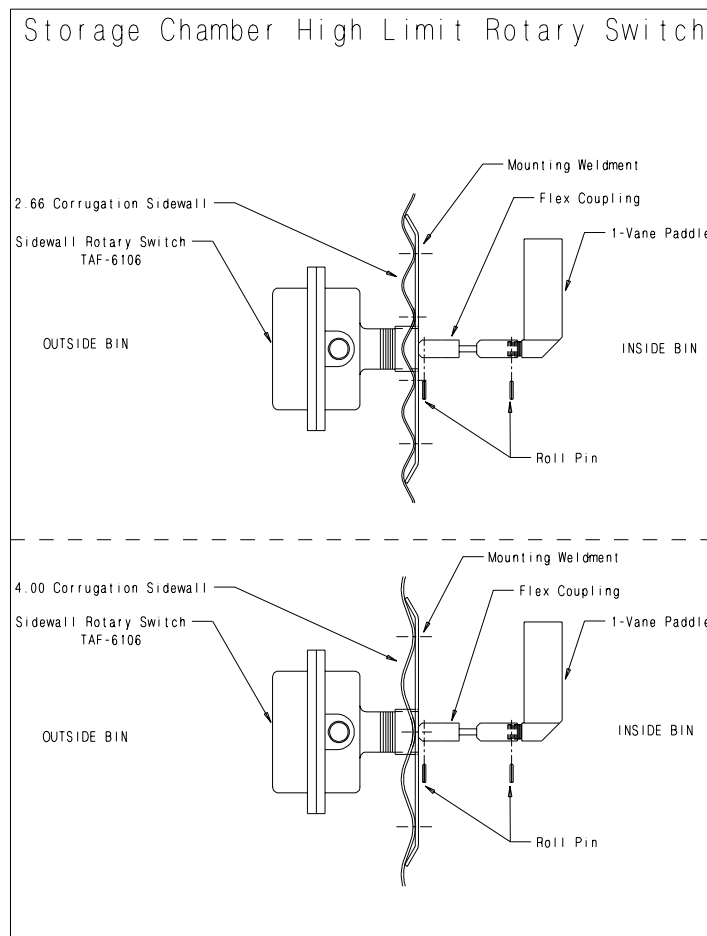

Figure 7: Storage chamber high limit rotary switch.
9. Attach the 1-vane paddle to the flex coupling as shown in Figure 7.